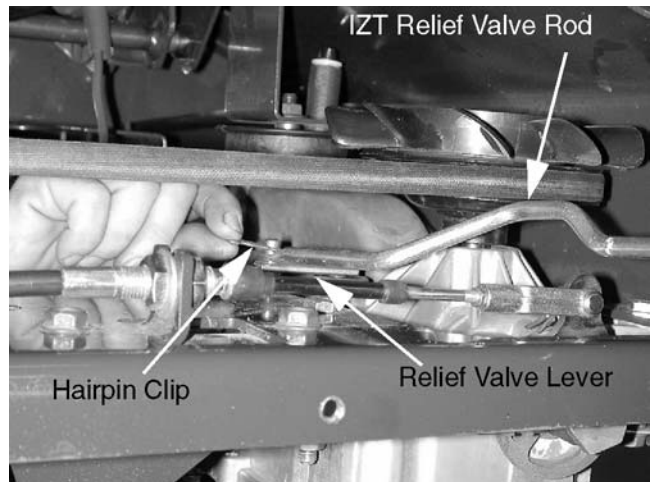

Figure 11-24
6. Remove the hairpin clip that holds the relief valve rod to the relief valve lever on the IZT. Remove the rod. See Figure 11-24.